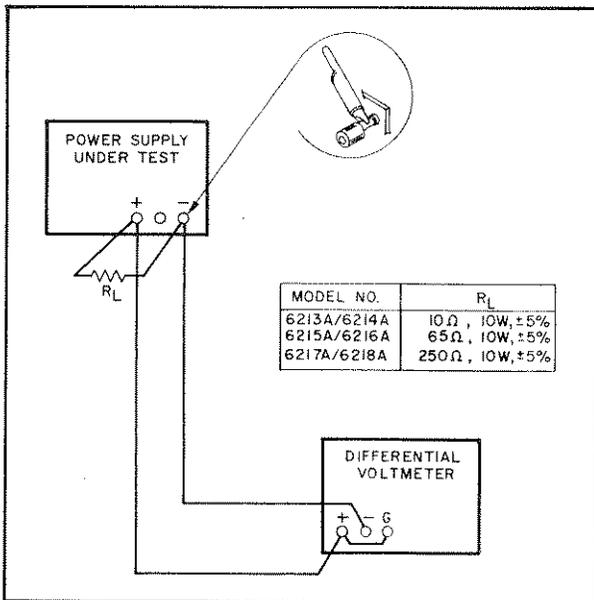

Figure 5-5. Load Regulation, Test Setup
- a. Connect test setup as shown in Figure 5-5.
- Connect test setup shown in Figure 5-5.